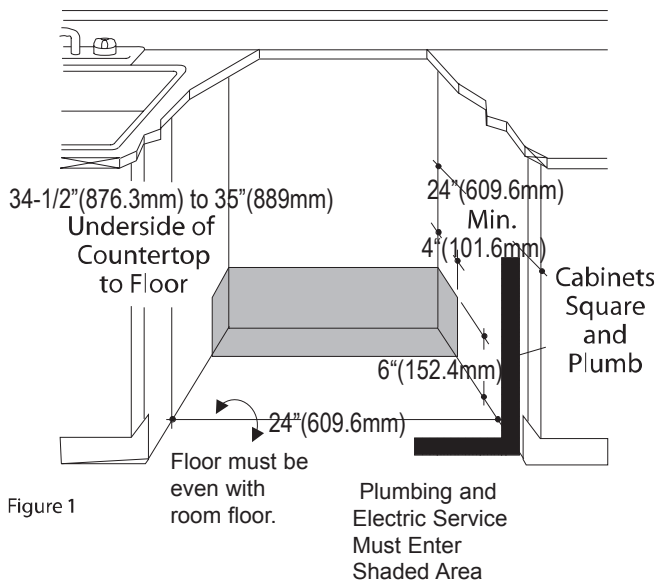

Figure 1
- Drill a 1-1/2\"(38.1mm) dia. hole in the cabinet wall within the Fig. 1 for drain hose connection. The hole should be smooth with no sharp edges.